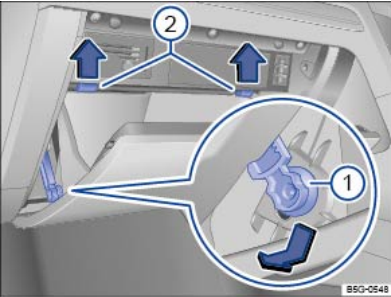

Fig. 209 Fuse box cover in the dash panel: right-hand drive vehicle, on the front passenger side.
- Open the stowage compartment on the front passenger side and remove the contents if necessary \Rightarrow Fig. 209 .
- Slide the braking element \Rightarrow Fig. 209 ① downwards into the opening in the holder and pull it out sideways.
- Push catches \Rightarrow Fig. 209 ② upwards in the direction of the arrow whilst opening the stowage compartment further.
- To *install*: bring storage compartment into position. Insert the brake element in the holder opening and push upwards until it audibly engages. Carefully push the stowage compartment forwards beyond the resistance of the catches \Rightarrow Fig. 209 ②).